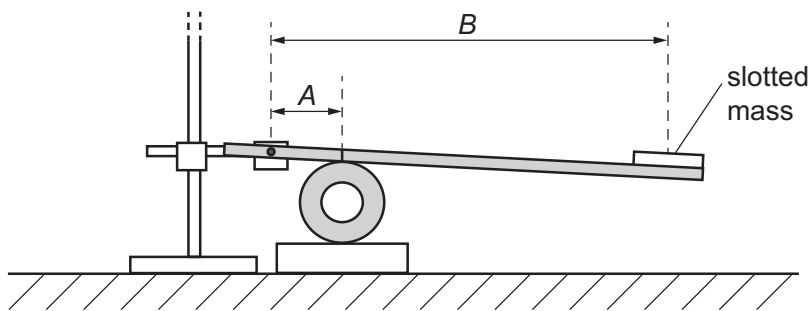

Fig. 2.5
- (c) (i) The distance between the nail and the line is A and the distance between the nail and the centre of the slotted mass is B , as shown in Fig. 2.5.